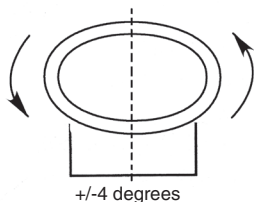

Fig. 3A
4. Using the bracket as a template, mark the position of the screw holes. Drill the holes in the wall where the light is to be mounted. Use suitable screws and wall plugs if necessary. The floodlight must be fixed securely. Mount the floodlight horizontally ( $\pm 4^\circ$ ) (Fig. 3A).